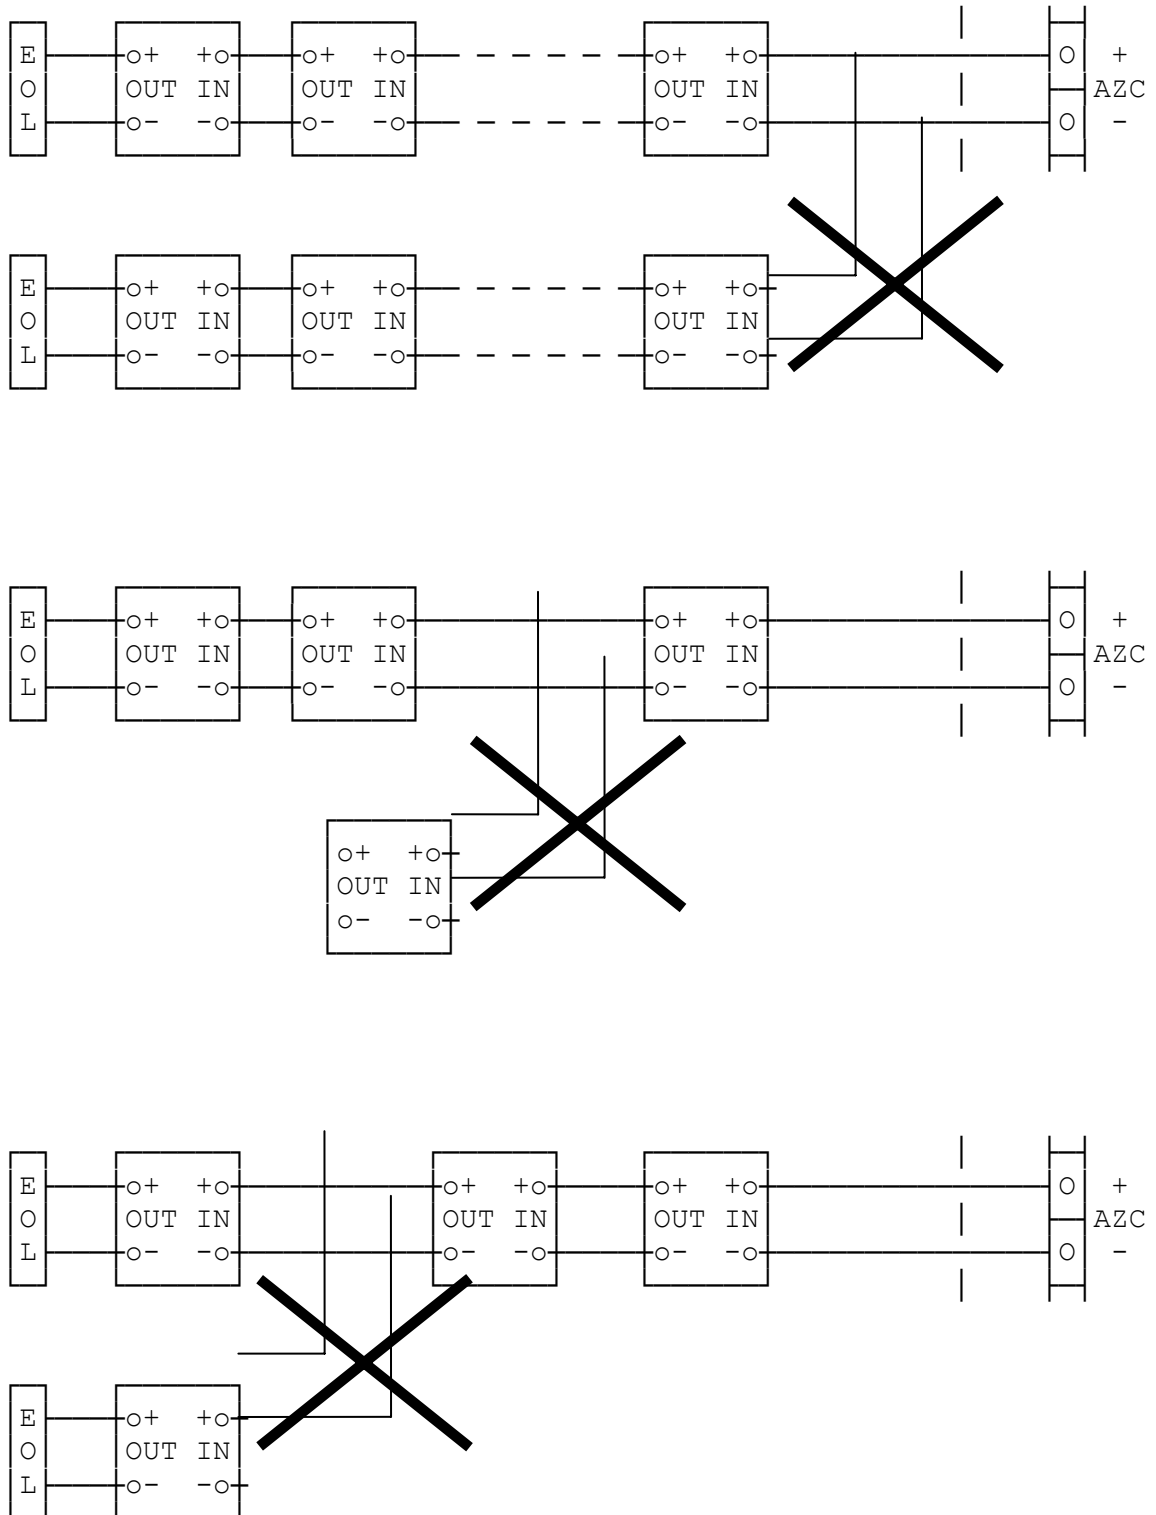

Figure 2.10
- 12) Figure 2.10 shows examples of INCORRECT AZC wiring.